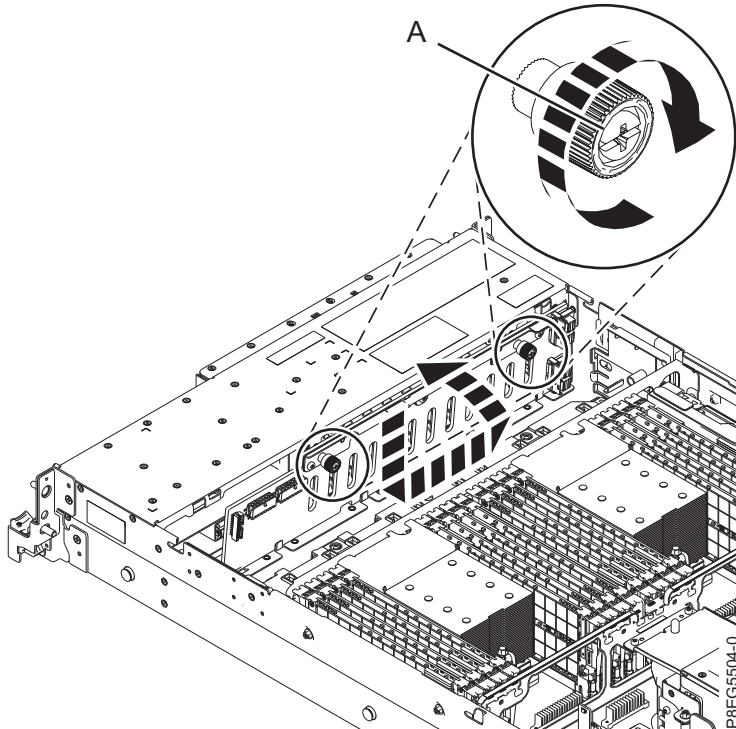

Figure 33. Replacing the disk drive backplane
- c. Shift the backplane slightly to the left to secure it in place, as is shown in Figure 33 on page 35.
- d. Carefully tighten each of the disk drive backplane's captive thumbscrews (A) until each one is secured to the system's chassis.